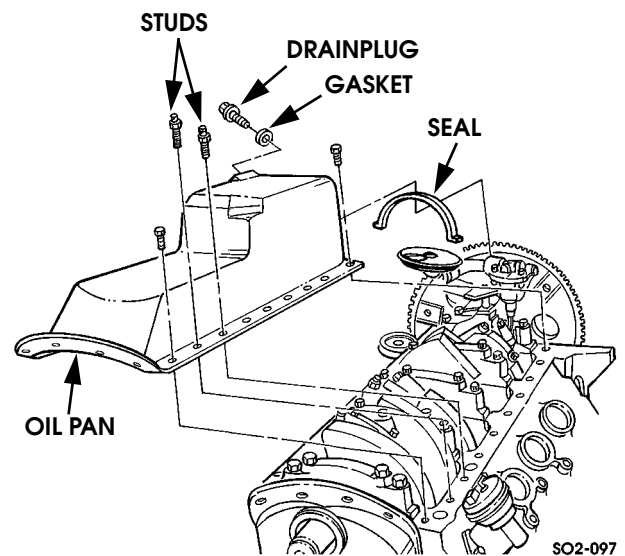

Figure 2-114: Oil Pan Removal
4. Remove pan rear seal (Figure 2-114). Discard seal.